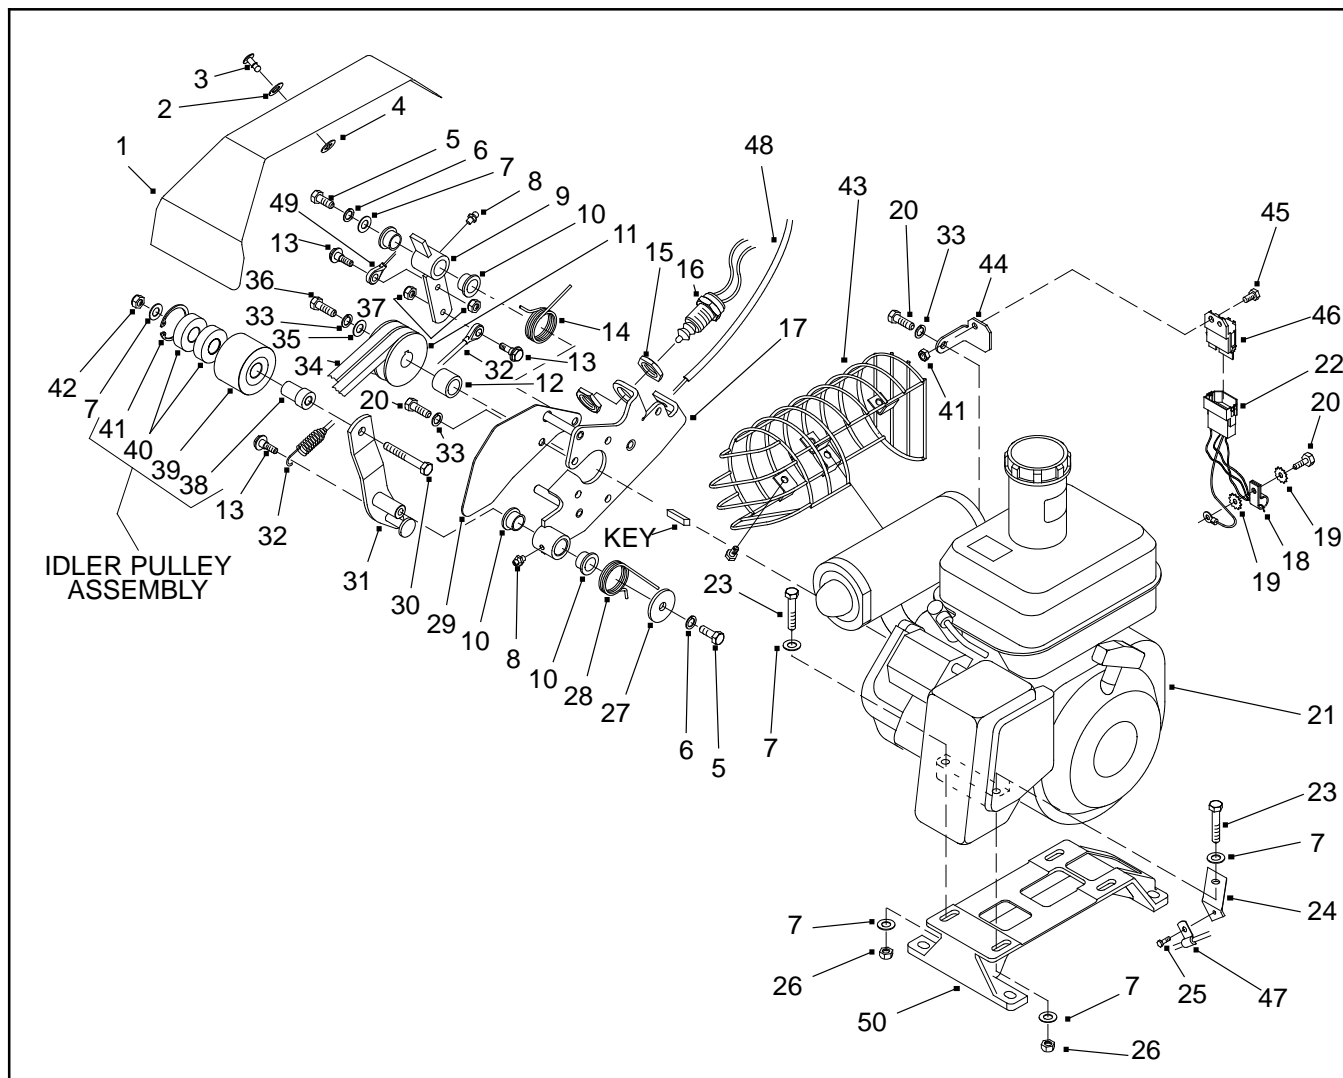
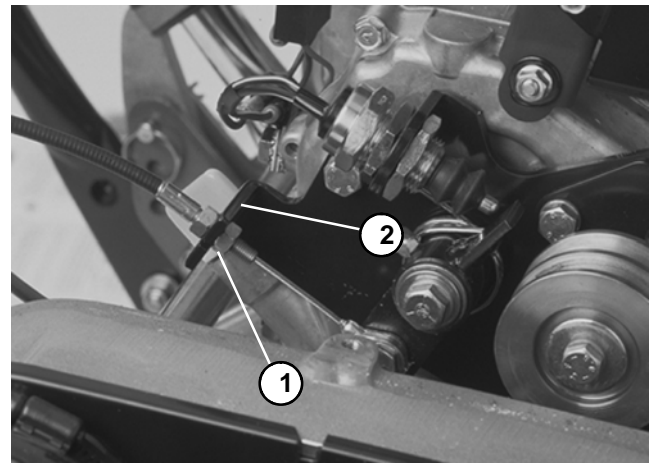
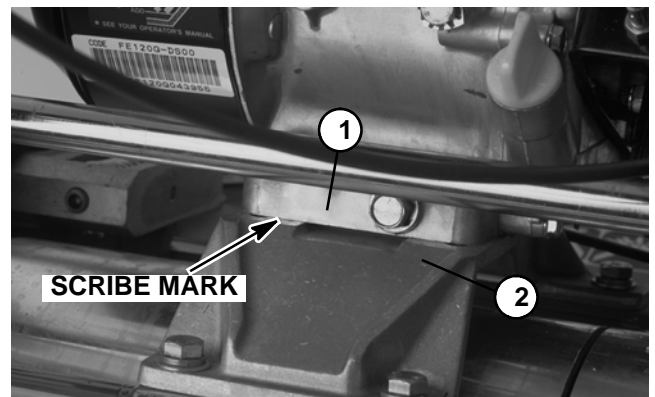
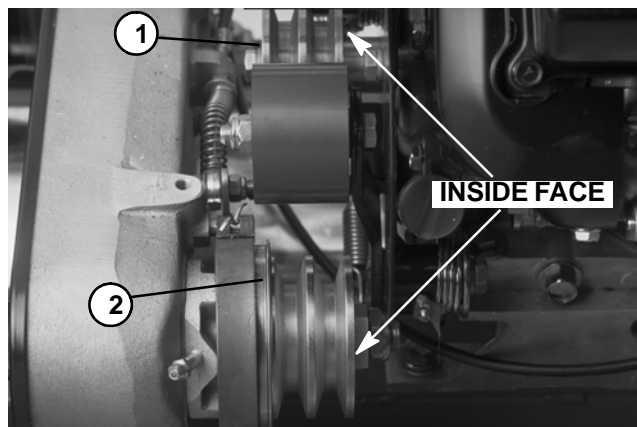

Figure 12
Figure 13
Figure 15
Figure 16
3. To increase V-belt tension, loosen cap screws securing the engine to the engine base (Fig. 12). Move engine backwards in slots. **DO NOT OVER TENSION BELTS.** Tighten cap screws.
2. Remove pulley V-belts (Fig. 12).
A. Make sure clutch is DISENGAGED so the V-belts (34) are slackened. Make sure service brake is DISENGAGED so the input shaft pulley can turn.
B. Open bellcrank cover (1) on the counter shaft housing to get access to the clutch. Remove V-belts one at a time by sliding the belt off the idler pulley (39) first.
3. Remove clutch cable (Fig. 12).
A. Remove shoulder bolt (13) and lock nut (37) from the clutch cable eyelet (49) and lever (9).
B. Loosen lower jam nut holding the clutch cable to the clutch bracket. Remove clutch cable from the clutch bracket and clear of engine (Fig. 13).
B. Remove cap screw (23), flat washers (7), and lock nut (26) from the engine base (49) and throttle cable bracket (24). Pull throttle cable (47) and bracket clear of the engine (Fig. 12).
A. Scribe a mark on the engine base at the bottom of the engine for reassembly purposes (Fig. 15).
B. Disconnect both black/white wires on the clutch switch (16) from both brown wires.
C. Remove remaining cap screws (23), flat washers (7), and lock nuts (26) from the engine base (49). Remove the engine from the cutting unit.
6. The bellcrank assembly can be removed from the engine with minimum disassembly (Fig. 12).
A. Remove cap screw (36), lock washer (33), and washer (35) from the engine shaft. Remove pulley (11), key, and spacer (12) from the engine shaft.
B. Remove five cap screws (20) and lock washers (33) securing the belt shield (29) and clutch bracket (17) to the engine block.
3. Make sure bellcrank cover (1) is open on the counter shaft housing to get access to the clutch (Fig. 12).
4. If the bellcrank assembly was removed from the engine (21), reassembly as follows (Fig. 12):
A. Position clutch bracket (17) to the engine with the long arm of the clutch torsion spring (28) under the engine.
B. Position belt shield (29) to the engine. Secure belt shield and clutch bracket to the engine with five cap screws (20) and lock washers (33).
D. Place engine shaft spacer (12) on the engine shaft and reinstall key. Apply never seize to the shaft.
E. Place input drive pulley (11) on the engine shaft with the counter bore out. Secure pulley to the shaft with cap screw (36), lock washer (33), and washer (35).
5. Reinstall engine (21) to engine base (50) (Fig. 12).
B. Install four cap screws (23) and flat washers (7) through the engine and engine base. Install throttle cable bracket (24) under the left front cap screw. Put flat washer and lock nut (26) on each cap screw and hand tighten.
C. Use scribe mark on engine block to align engine. The distance between engine output shaft center and power shaft center should be from 5.11 to 5.23 inches (130 to 133 mm). Inside pulley faces should be flush to each other to within 0.030 inch (0.762 mm) maximum (Fig. 16).
E. Reconnect both black/white wires on the clutch switch (16) to both brown wires.
A. Reinstall clutch cable into notch of clutch bracket and clear of engine. Tighten lower jam nut holding clutch cable to clutch bracket (Fig. 13).